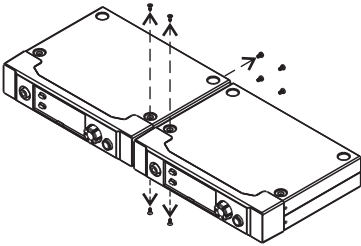

Fig. 13
- (A) Remove top & bottom screws, Fig. 13.